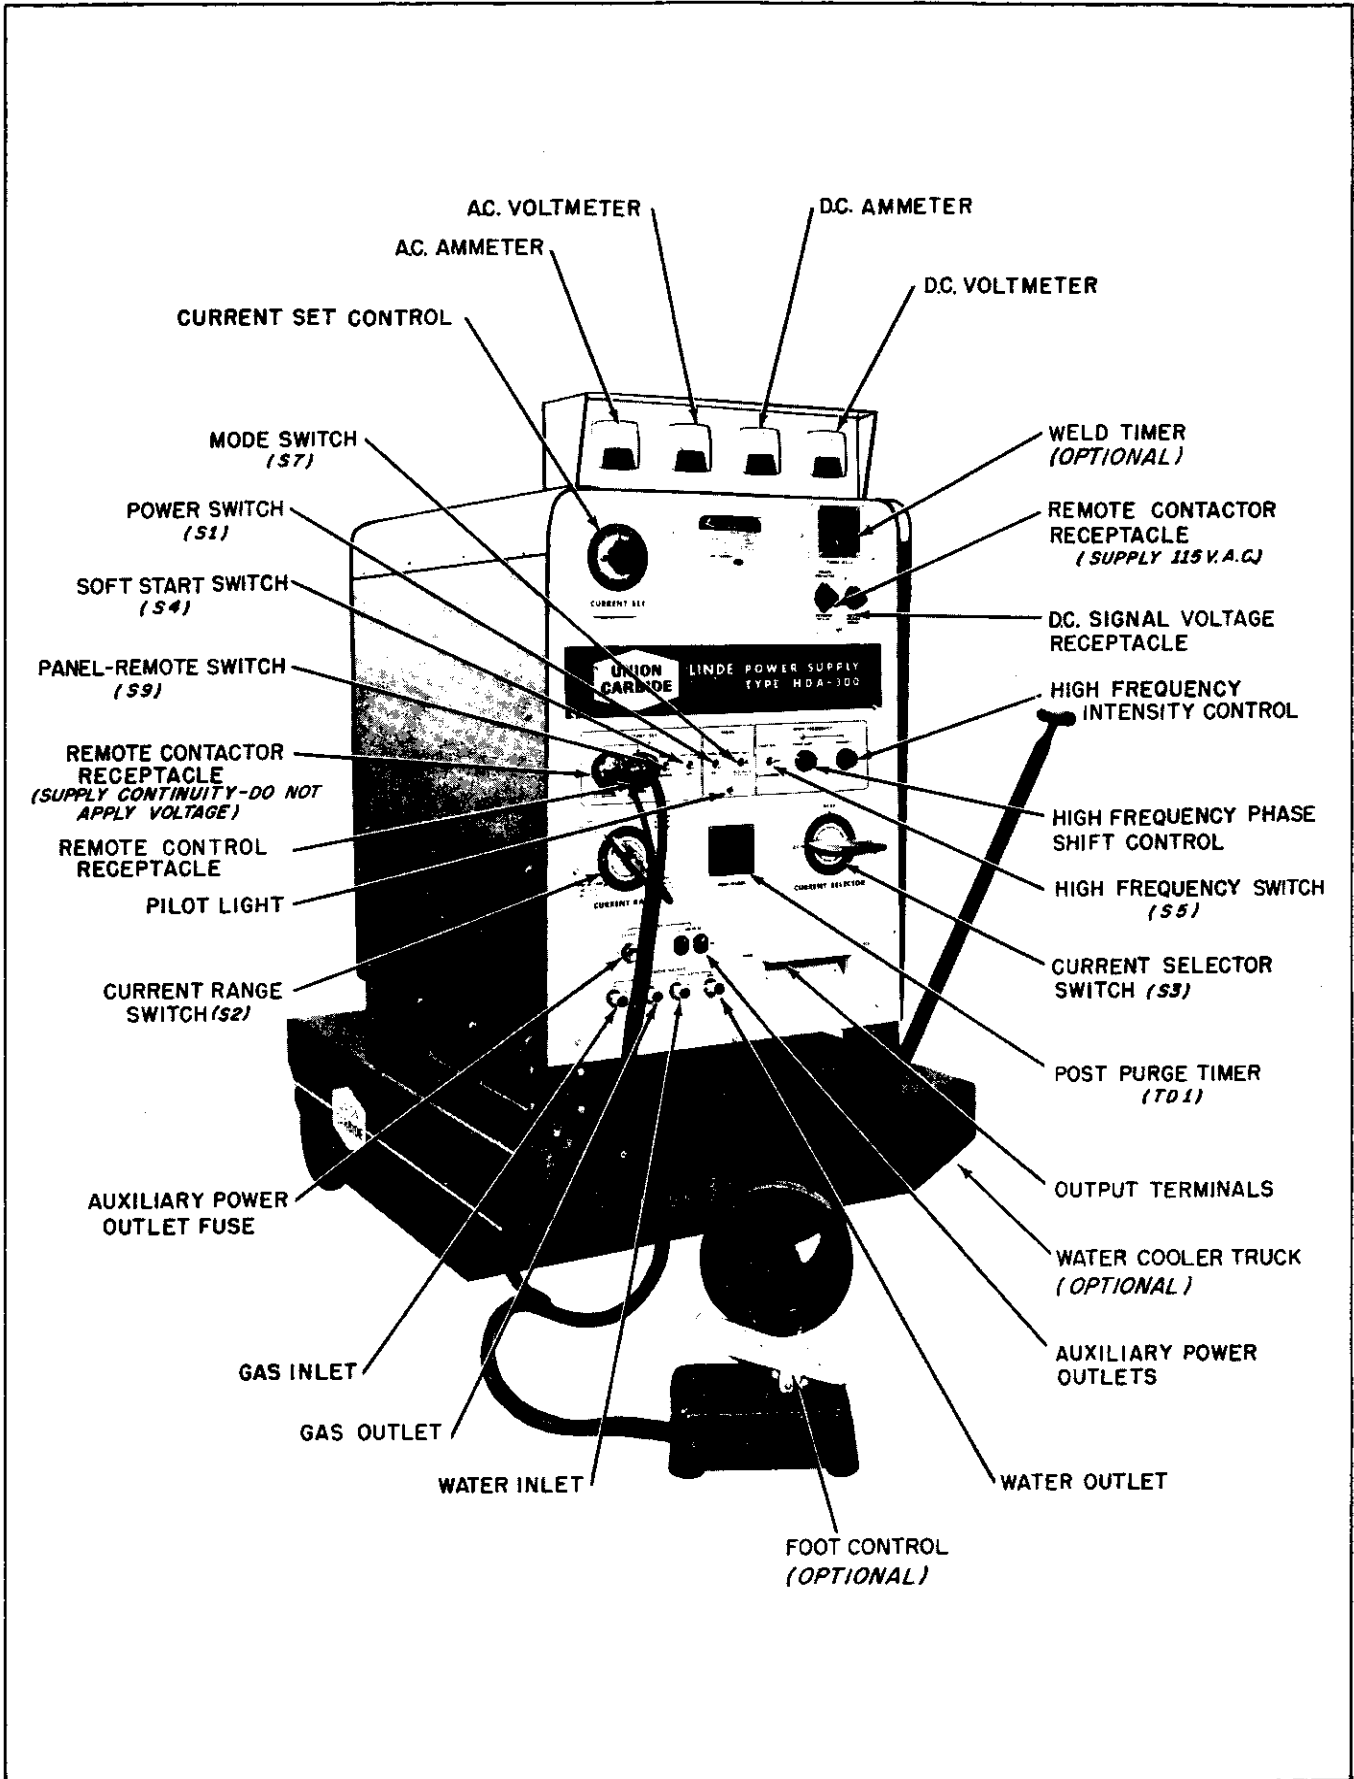

FIG. 2 - HDA-300 Power Supply, Front Panel Controls
4. Close the input (wall disconnect) switch. The input side of the primary contactor and the Line Switch will now be energized. Put the Line Switch in the "POWER ON" position. (See Figure 2). This will energize the fan motor, control transformer and control circuitry.
Before making a weld, set the controls to establish the desired starting conditions. (See Figure 2.)